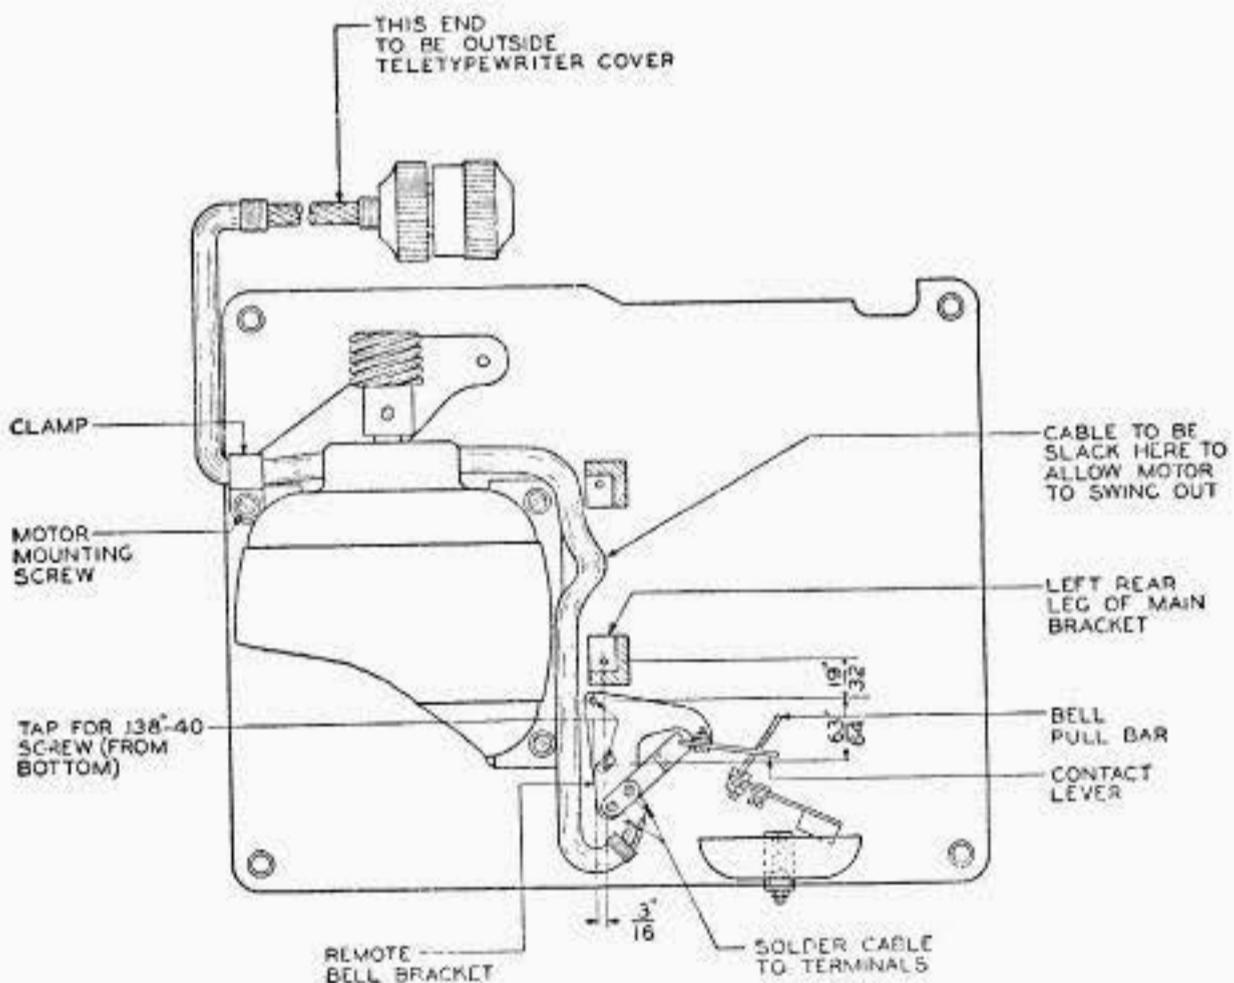

Fig. 1.
2.01 Drill and tap two .138"-40 holes in the base plate of the typing unit as shown in Fig. 1. This may be done from the bottom of the base plate by placing the unit on its back and locating the position of the holes to be drilled by measuring from the center of the hole used for mounting the left rear leg of the main bracket.
2.04 Mount the cable on the teletypewriter as shown in Fig. 1 leaving a little slack in front of the motor to allow for swinging out the motor.
2.05 Fasten the cable in place by means of the clamp as shown in Fig. 1. This clamp is mounted by the rear right motor mounting screw. Bend the clamp slightly so as to grip the cable.